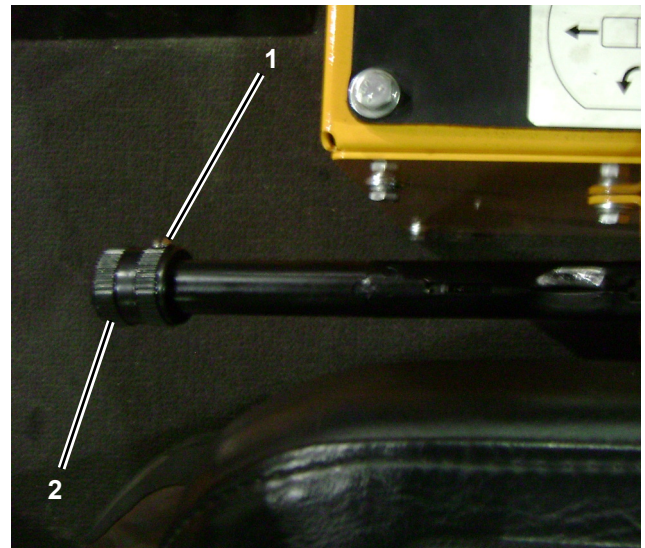

Figure 7-8
1. Loosen screw (**Figure 7-8, 1**).
2. Rotate knob (**Figure 7-8, 2**) clockwise to tighten brake cable; counter-clockwise to loosen.
3. When desired tension is reached, retighten screw (**Figure 7-8, 1**).